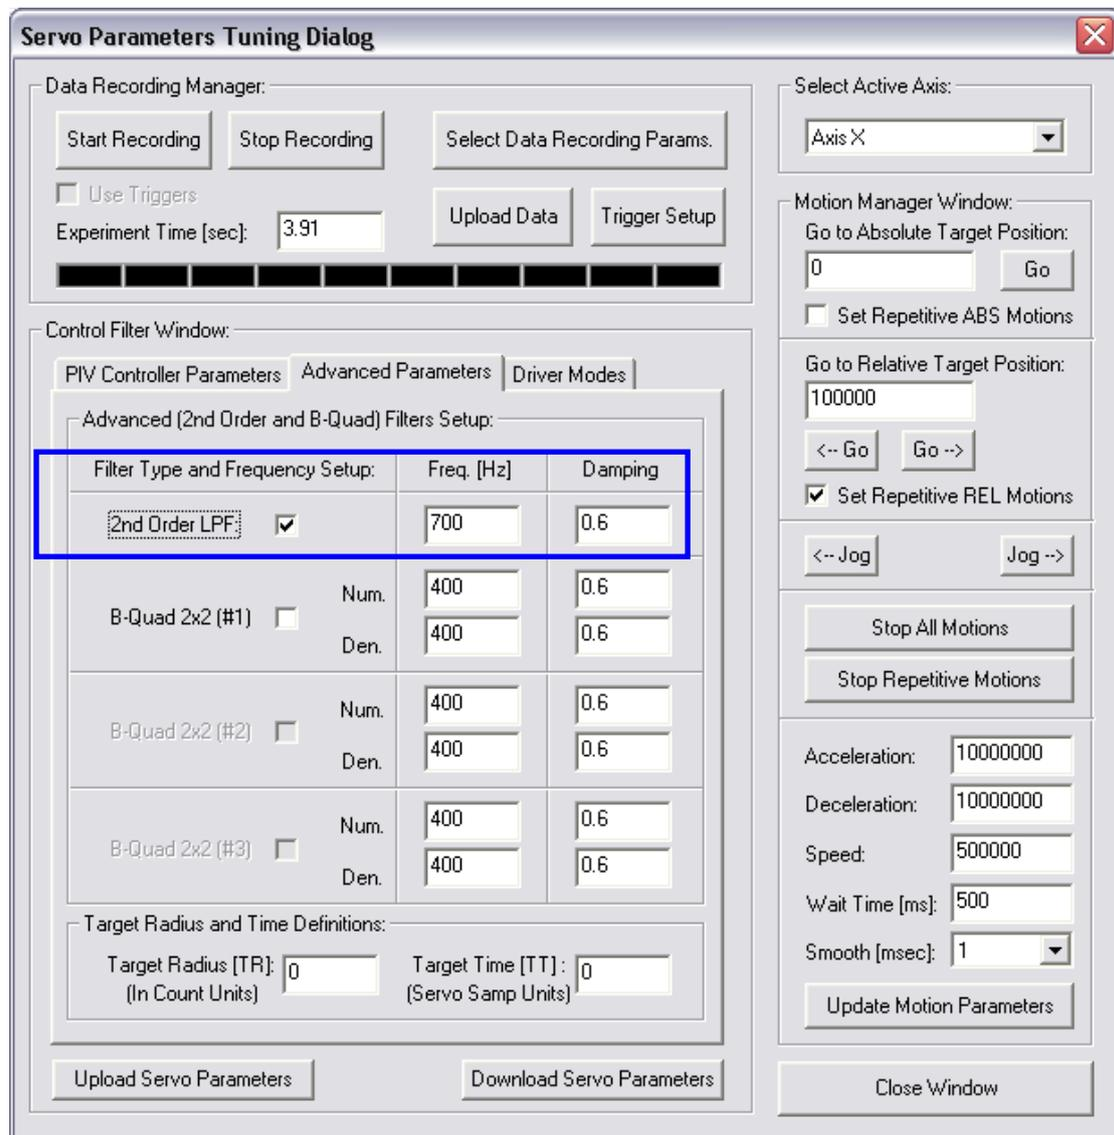

Figure 9: Defining the “Advanced Parameters”
4. Click the “Advanced Parameters” tab and under “Filter Type and Frequency Setup” see Figure 9: